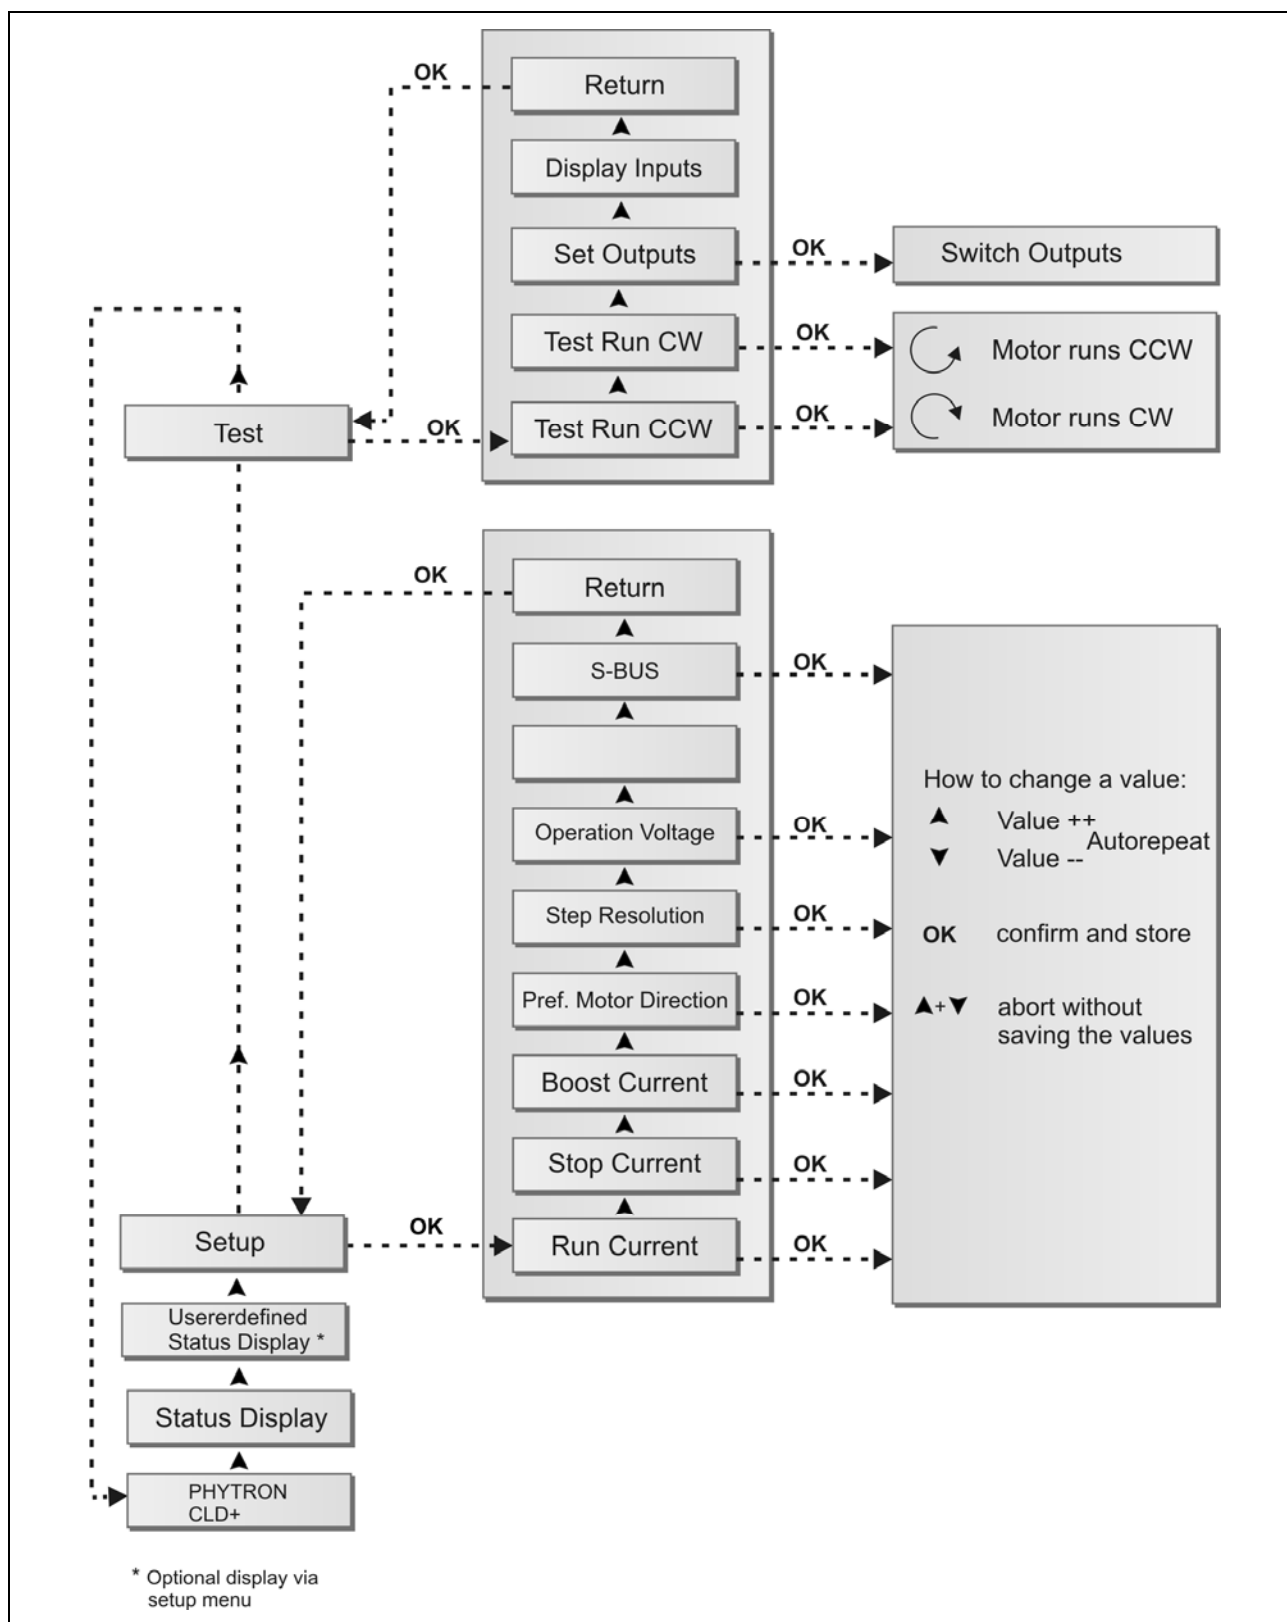

Fig. 15: Structogram of the menu
6. Test the menu functions shown in Fig. 15 and the stepper motor should turn. These functions can be done without connecting a superior control.